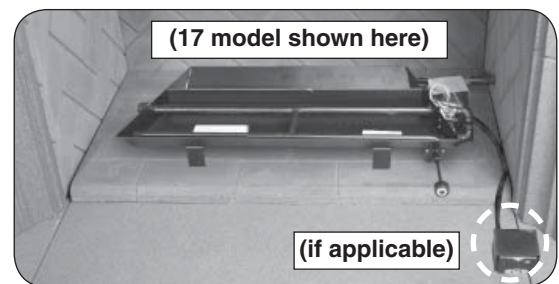

Fig. 11-3 Orientation (place receiver if applicable)
3. Place the burner system in the fireplace. Center the burner in the fireplace. (Reference Fig. 11-3 for orientation.)
8. **For 17 models only: place the plastic cover over the receiver, then place at the front right corner of the fireplace. Place as far from the burner system as possible.** See Fig. 11-3.